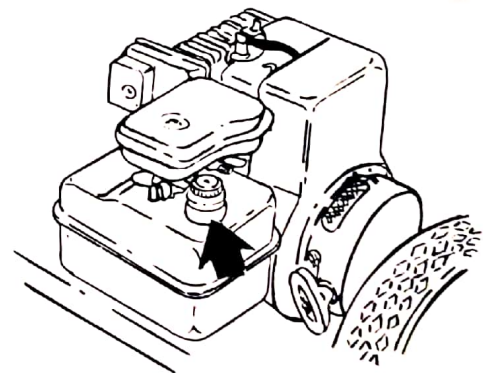

Figure 7
**Step 3)** Fill engine fuel tank using fresh, clean, low lead or leaded "regular" grade automotive gasoline. (Fig. 7)